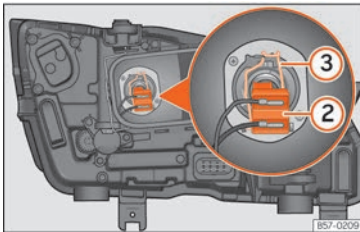

Fig. 56 In the engine compartment: dipped beam headlight bulb.
- Remove connector **»» Fig. 56 ②** from the bulb.
- Unclip the retainer spring **»» Fig. 56 ③** pressing clockwise and inwards.